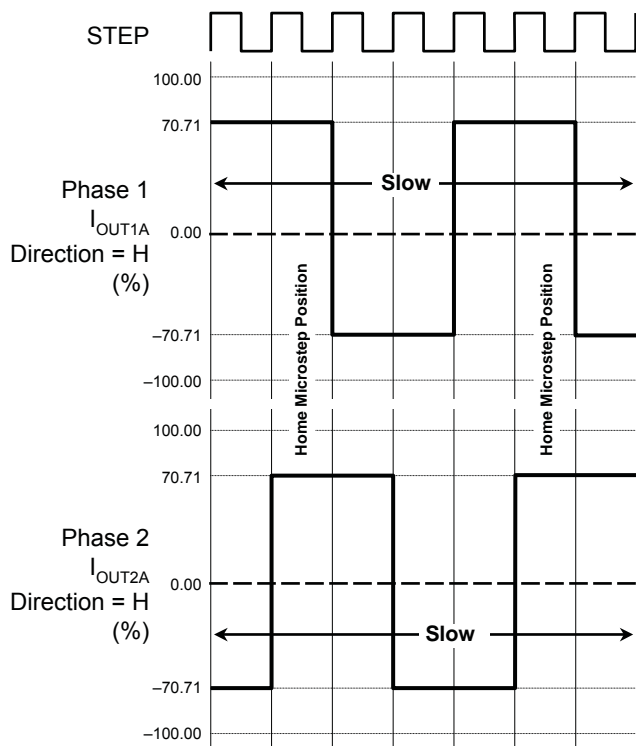

Figure 2. Decay Mode for Full-Step Increments
At power-on or reset, the translator sets the DACs and the phase current polarity to the initial Home state (shown in figures 2 and 3), and the current regulator to Mixed Decay Mode for both phases. When a step command signal occurs on the STEP input, the translator automatically sequences the DACs to the next level and current polarity. (See table 2 for the current-level sequence.) The step resolution is set by input MS1, as shown in table 1.
**RESET Input (RESET).** The RESET input sets the translator to a predefined Home state (shown in figures 2 and 3), and turns off all of the DMOS outputs. All STEP inputs are ignored until the RESET input is set to high.